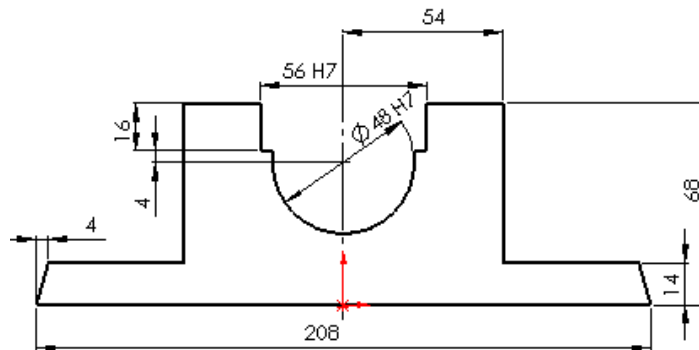

Figure 6-80 Fully defined sketch of the base feature
- Create the base feature of the model on the default plane, refer to Figures 6-80 and 6-81.
3. Add the required relations and dimensions to the sketch as shown in Figure 6-80.